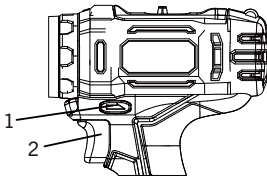

Fig. 6
The forward/reverse switch (1) is conveniently mounted above the trigger switch (2) (Fig. 6). To make the drill rotate clockwise (for drilling) push the forward/reverse switch to the left. To make the drill rotate counter clockwise for removing screws, push the forward/reverse switch to the right.